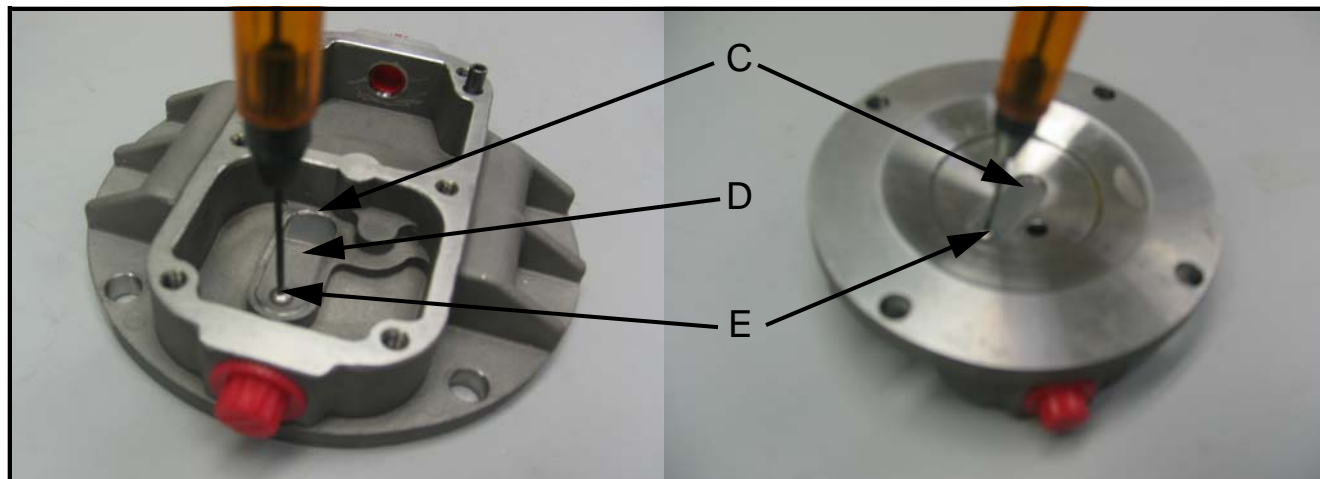

Figure 75: Removing the Flapper Valves and Valve Stop
6. The valve flappers (see Figure 75, labeled C) and valve stop (see Figure 75, labeled D) can then be removed by unscrewing the two 1/16" Allen screws using a 1/16" Allen wrench (see Figure 75, labeled E).